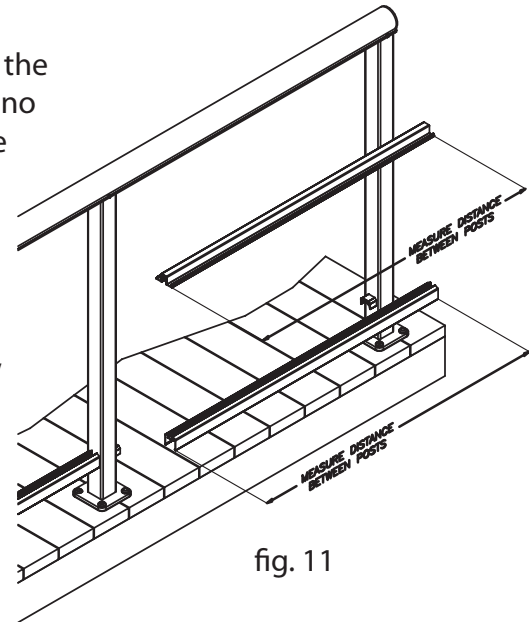

fig. 11
**7) Cut Bottom Rails** (fig.11): Measure between each set of posts just above the RCB's. Write down your measurements. Cut the bottom rail for each section no more than 1/16" less then the measurement you recorded . Also at this time cut the vinyl inserts to match the bottom rails. Press in the vinyl insert until it is firmly seated. Note: the bottom rail vinyl is more shallow then the upper vinyl.
**8) Cut Top Rail Infills** (fig.11): Measure between each set of posts just below the top rail. Write down your measurements. Cut the top rail infill for each section no more than 1/16" less then the measurement you recorded. Also at this time cut the vinyl inserts to match the top rail infills. Press in the vinyl insert until it is firmly seated. Note: the top rail infill vinyl is deeper then the bottom rail vinyl.